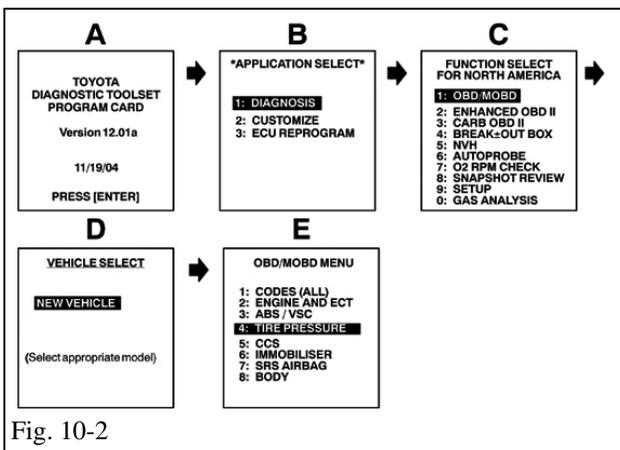
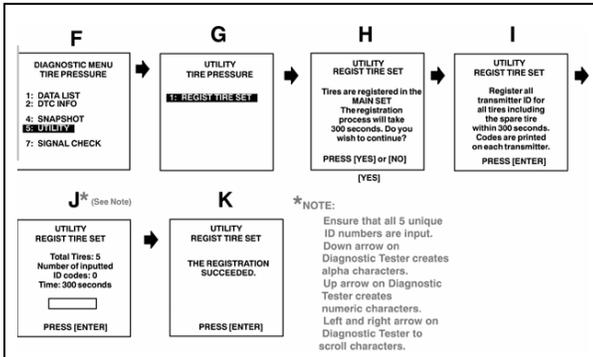

Fig. 10-2
Fig. 10-3
- (d) Turn on Tester and Select **UTILITY - REGIST TIRE** following the hand-held tester screen prompts. (Fig. 10-2 & Fig. 10-3)